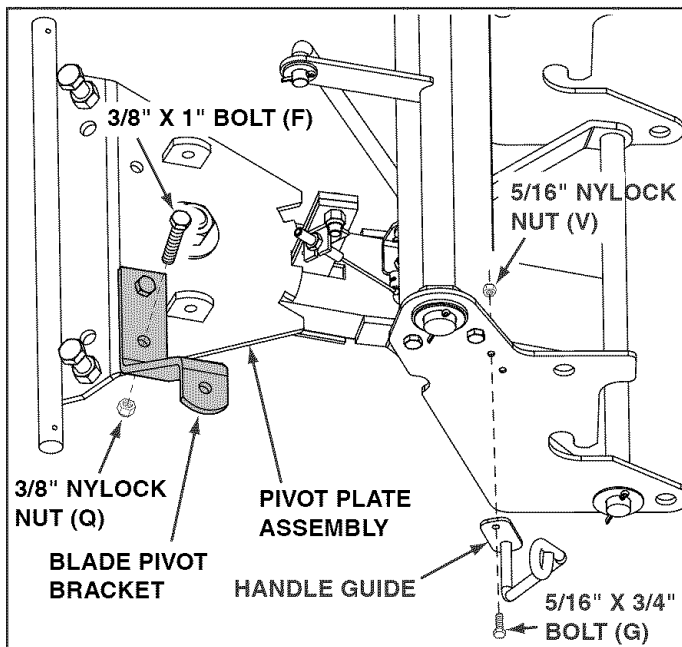

FIGURE 17
STEP 16: (SEE FIGURE 17)
- Assemble the blade pivot bracket to the pivot plate assembly using two 3/8" x 1" bolts (F) and 3/8" nylock nuts (Q).
- Assemble the handle guide to the frame assembly using a 5/16" x 3/4" bolt (G) and 5/16" nylock nut (V).